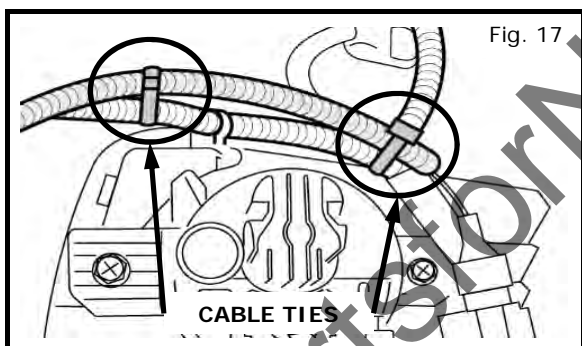

Fig. 17
a) Secure fog lamp jumper harness with two (2) cable ties as shown in Fig. 17.